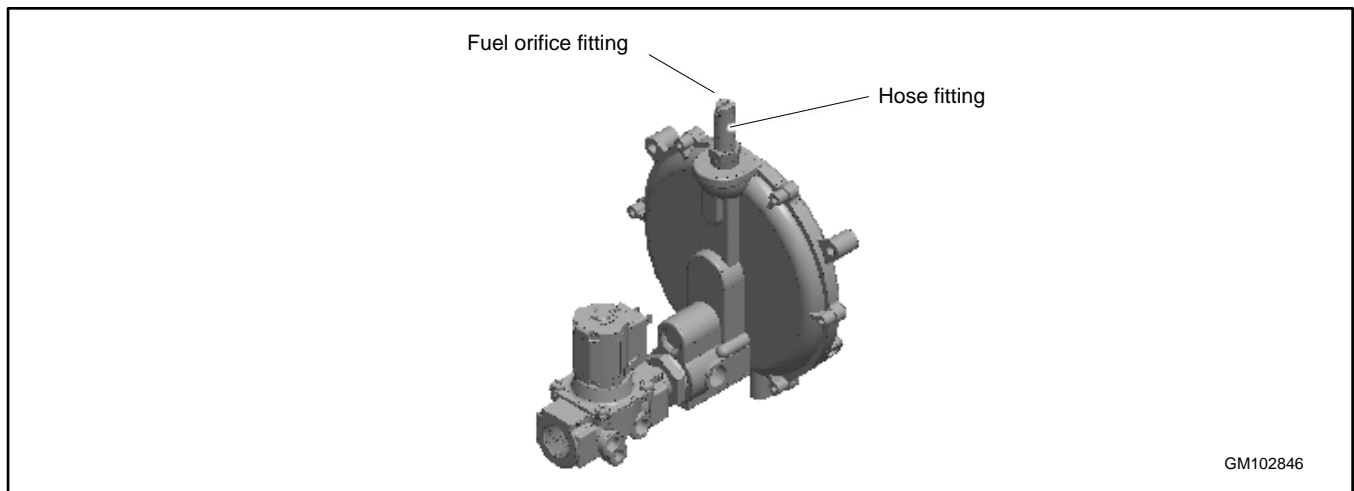

Figure 14 Fuel System Showing Orifice Fitting (14RCA/L)
5. Remove the hose clamp and fuel hose from the hose fitting. See Figure 14.
6. Use a straight-blade screwdriver to remove the NG orifice from the hose fitting. See Figure 14.